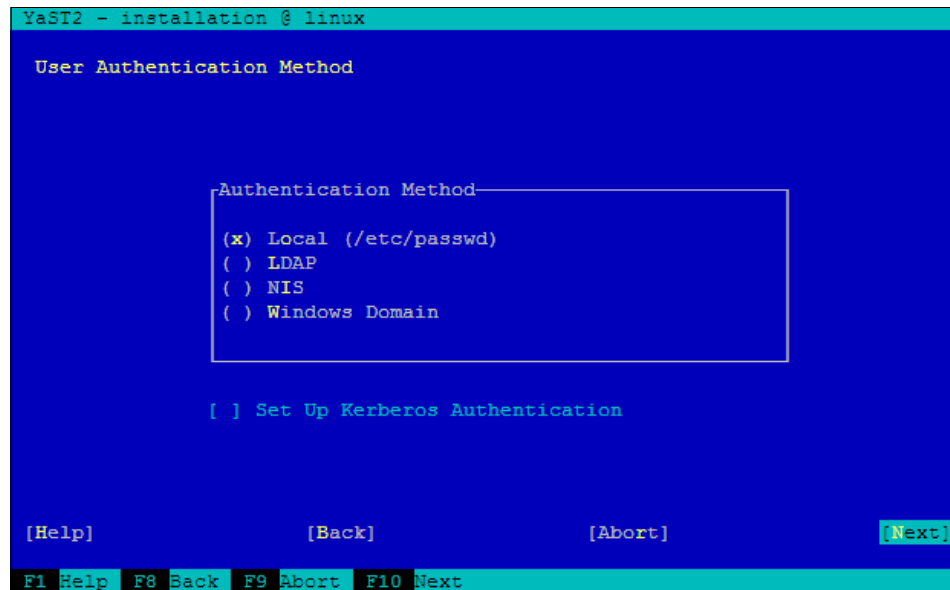

Figure 9-33 User Authentication Method
23. Change the Certification Authority (CA) Installation setting, if desired. Select **[Next]** to confirm the changes.
24. Select the user authentication method appropriate for this LPAR and select **[Next]**. See Figure 9-33 on page 391.